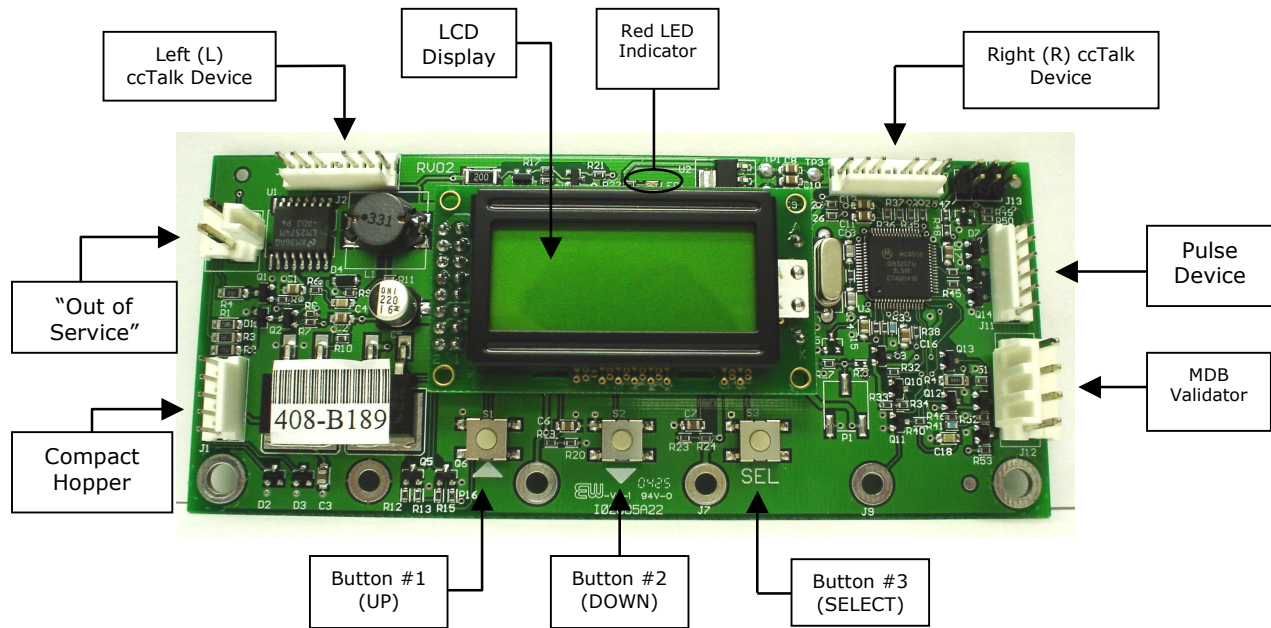

Figure 1 – Main Logic Board
Power-ON the changer, and allow it to run through its start-up procedure, which may take up to a minute or more. During this time, you will hear the validator motors cycling. This is normal. After waiting the allotted time, the changer will be in its Standby state, ready to accept bills or coins. In this state, the MLB display's backlight will be on continuously, and the screen will display the current count of total dollars changed by the machine. Additionally, the board's red LED will blink once per second to indicate that the unit is getting power and functioning normally. (See Figure 1.)
Your changer comes preset with default operational settings that are easily reprogrammed to meet your desired application. Programming is done using the three buttons and LCD display located on the Main Logic Board as an interface. (See Figure 1.)
ccTalk: Select this option if using one or more hoppers with a ccTalk serial interface to the Main Logic Board (MLB). Once selected, enter the number of ccTalk hoppers – one or two – to be used in the changer. *Note: Each Logic Board has the capacity to control two ccTalk hoppers, left and right; but, if only one is used, it must be plugged into the left-side connector (see Figure 1 for the ccTalk device connections on the MLB). Further Note: If your model changer has two Logic Boards and two hoppers, then only one hopper will be controlled by each board; select '1' as the number of ccTalk hoppers on both boards.*
ccTalk: This option should be selected if the installed coin acceptor communicates with the Main Logic Board using ccTalk serial communication protocol (see Figure 1 for the ccTalk device connections on the MLB; contact the coin acceptor's manufacturer or American Changer if help is needed). After choosing ccTalk, the program prompts for specification of the currency type that will be processed by the coin acceptor. Choose either US or Canadian coins.
Pulse: If the installed coin acceptor communicates with the Logic Board using pulse protocol, select 'Pulse' (the Condor Plus uses Pulse communication). Following this, the program will request specification of the logic level used to enable the coin acceptor, high (Hi) or low (Lo) (for the Condor Plus, select high). *Note: The Logic Board can only control one pulse device; if a pulse validator is installed, a pulse coin acceptor cannot be* (see Figure 1 for the pulse device connection on the MLB).
MDB: Select 'MDB,' and then enter how many MDB validators are installed in the changer – either one (1) or zero (None!). (See Figure 1 for the MDB validator connection on the Main Logic Board.)
Pulse: Select 'Pulse,' and then choose either one (1) or zero (None!) to specify the number of pulse validators that are inside the unit. If '1' is chosen, then the program will further prompt for whether the validator is enabled using a logic-high (Hi) or a logic-low (Lo) signal; either must be chosen. *Note: The Logic Board can only control one pulse device; if a pulse coin acceptor is installed, a pulse validator cannot be.* (See Figure 1 for the pulse device connection on the MLB.)